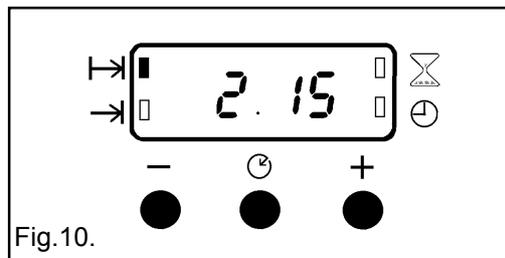

Fig.10.
- iii) To set the length of cooking time, press the Selector Control button until the 'Cook Time' (H→) indicator is illuminated. Press the increase control ( + ) until the required length of cooking time is displayed, e.g. 2 hrs 15 mins as Fig. 10. Depress the decrease control ( - ) if necessary.